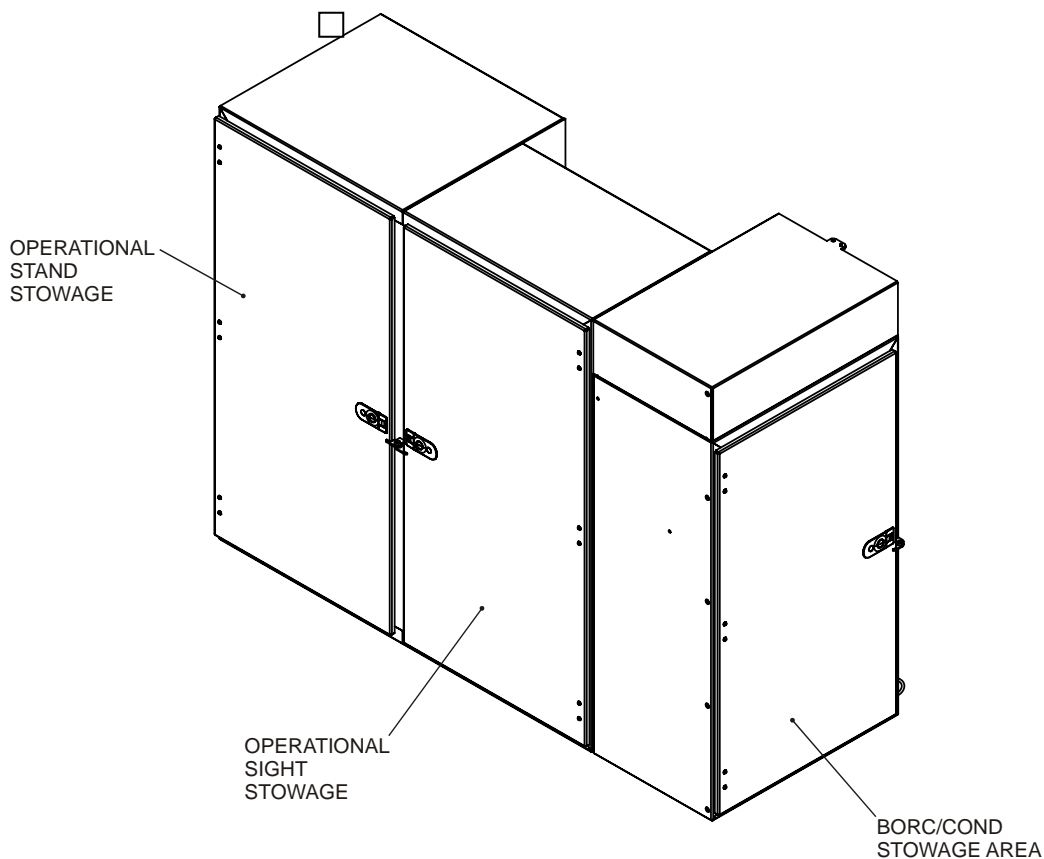

Figure 9 Passengers Side Stowage
15. The rear passenger side module (Figure 9) is located behind the missile stowage module on the left-hand side of the vehicle. This module contains stowage for the operational stand, operational sight and clip-on night sight (BORC/COND) night sights.